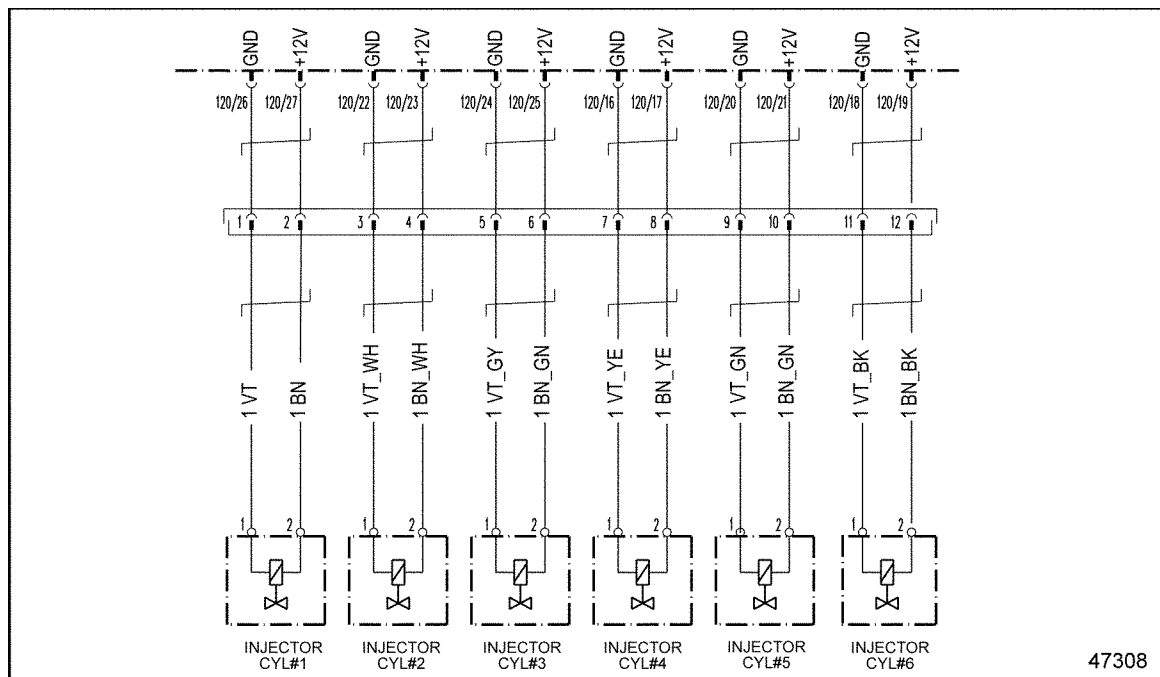

Figure 27-1 MBE 900 Injectors
4. Measure the resistance between pins 7 and 8 on the valve cover side of the connector. See Figure 27-1.